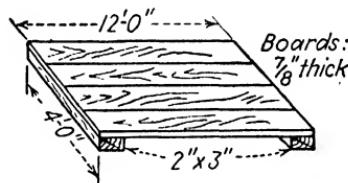

Fig. 307.
- 37.** How many board feet of lumber would be needed to build the platform shown in Fig. 307?